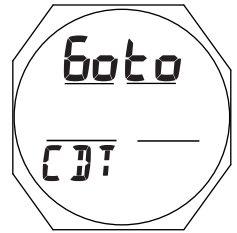

Fig. 105 - CDT LEAD-IN
**CDT Lead-in**, information includes (Fig. 105):